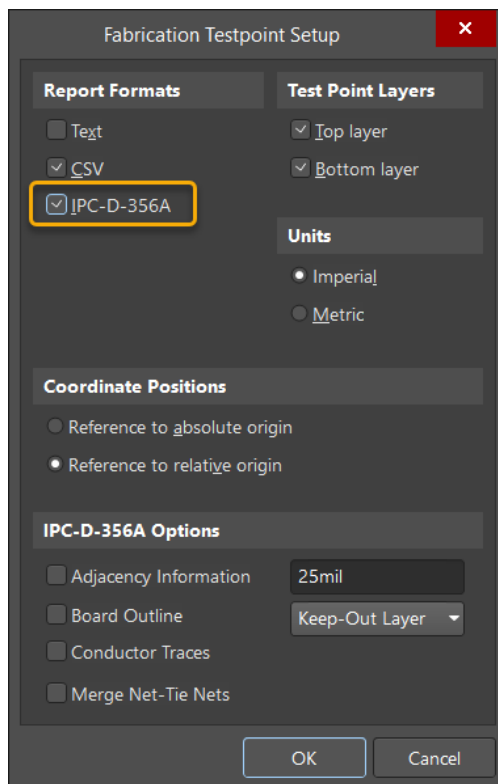

Figure 3. Generating an IPC-D-356A Netlist
20. Enable the **IPC-D-356A** dialog box to generate this report format as part of your outjob, see Figure 3.